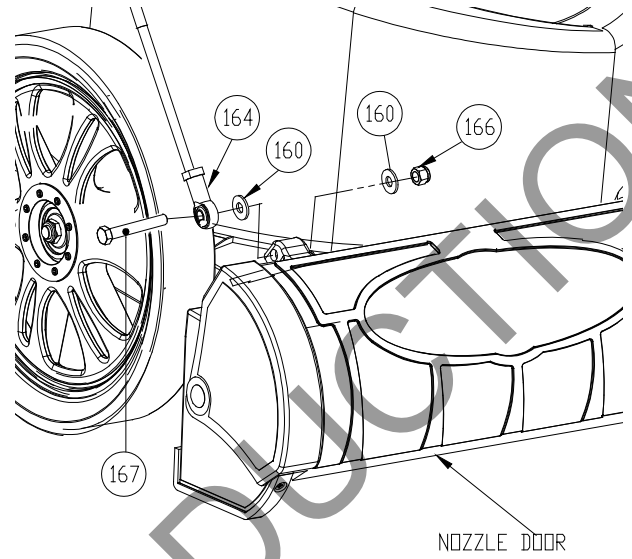

Fig. 4
5. Attach rod end (item 164) to the nozzle door rod then secure in place by tightening jam nut. (See Fig. 4 next page)
8. Attach nozzle door rod to the lever with nozzle door closed and lever in hose kit position. *NOTE:* Check to see that the nozzle door opens and closes all the way (see page 15). Tighten or loosen the rod end (item 164) for any adjustments. (See Fig. 4 and 5)